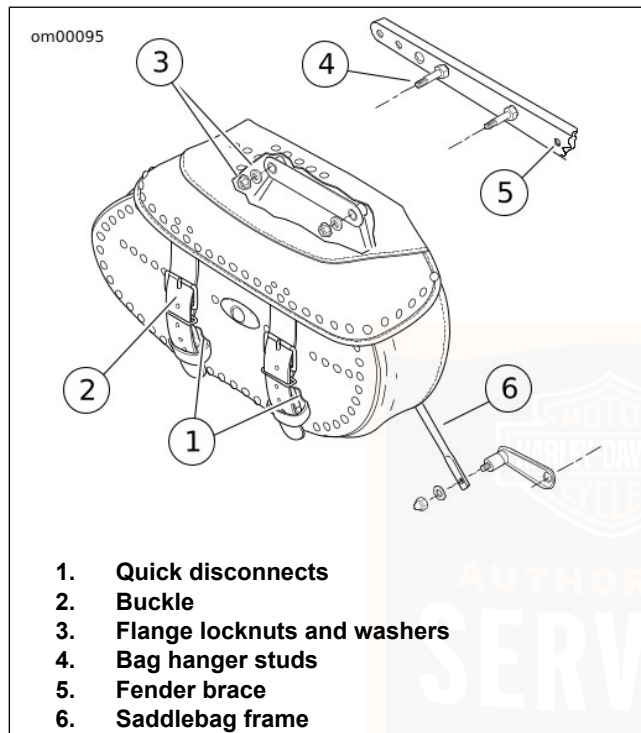

Figure 33. Saddlebag Assembly: FLSTC Shown
1. See Figure 33. Unbuckle the saddlebag straps.
1. See Figure 33. Place the saddlebag in position with the mounting holes on the fender brace.